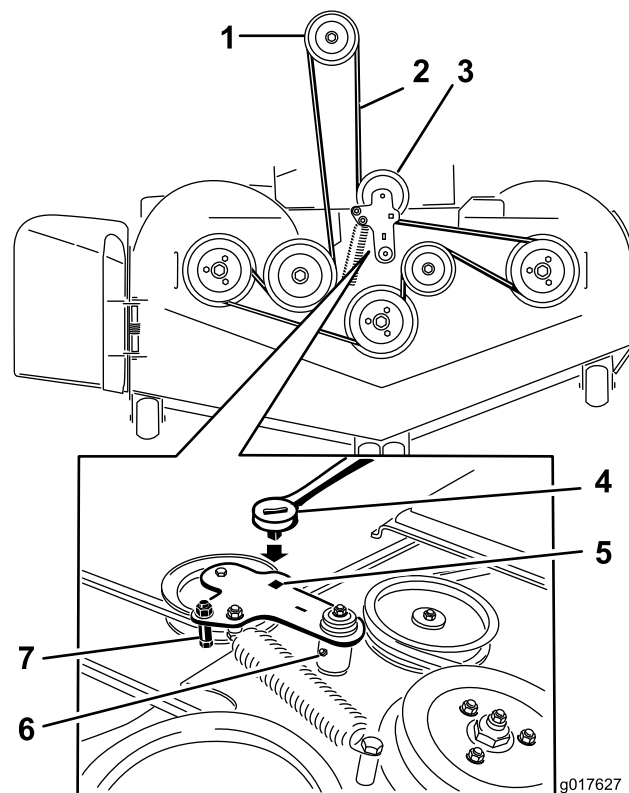

Figure 82
5. Use a ratchet in the square hole in the idler arm to remove tension on the idler spring (Figure 82).
7. Remove the belt guide on the spring-loaded idler arm (Figure 82).
9. Install the new belt around the mower pulleys and the clutch pulley under the engine (Figure 82).
10. Install the belt guide on the idler arm (Figure 82).
11. Using the ratchet in the square hole, install the idler spring (Figure 82).